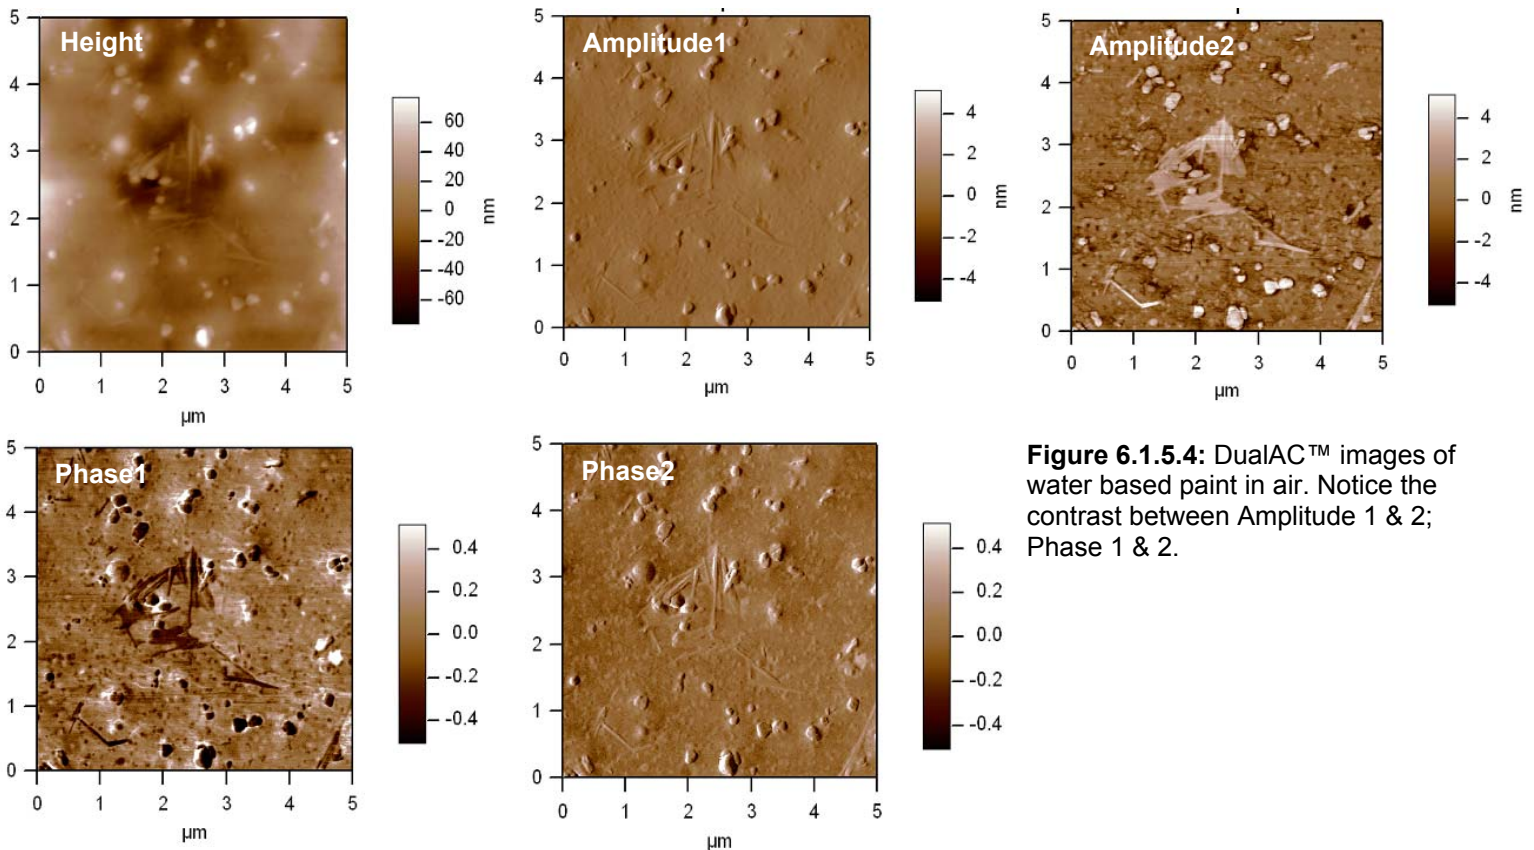

Figure 6.1.5.4: DualAC™ images of water based paint in air. Notice the contrast between Amplitude 1 & 2; Phase 1 & 2.
•Figure 6.1.5.4 shows an example of a Dual AC™ mode image of some dried water based latex paint, imaged in air with a Nanoworld NCL-50 silicon lever ($f \sim 190\text{kHz}$; $k \sim 48\text{N/m}$). The author was able to keep both modes in repulsive modes.